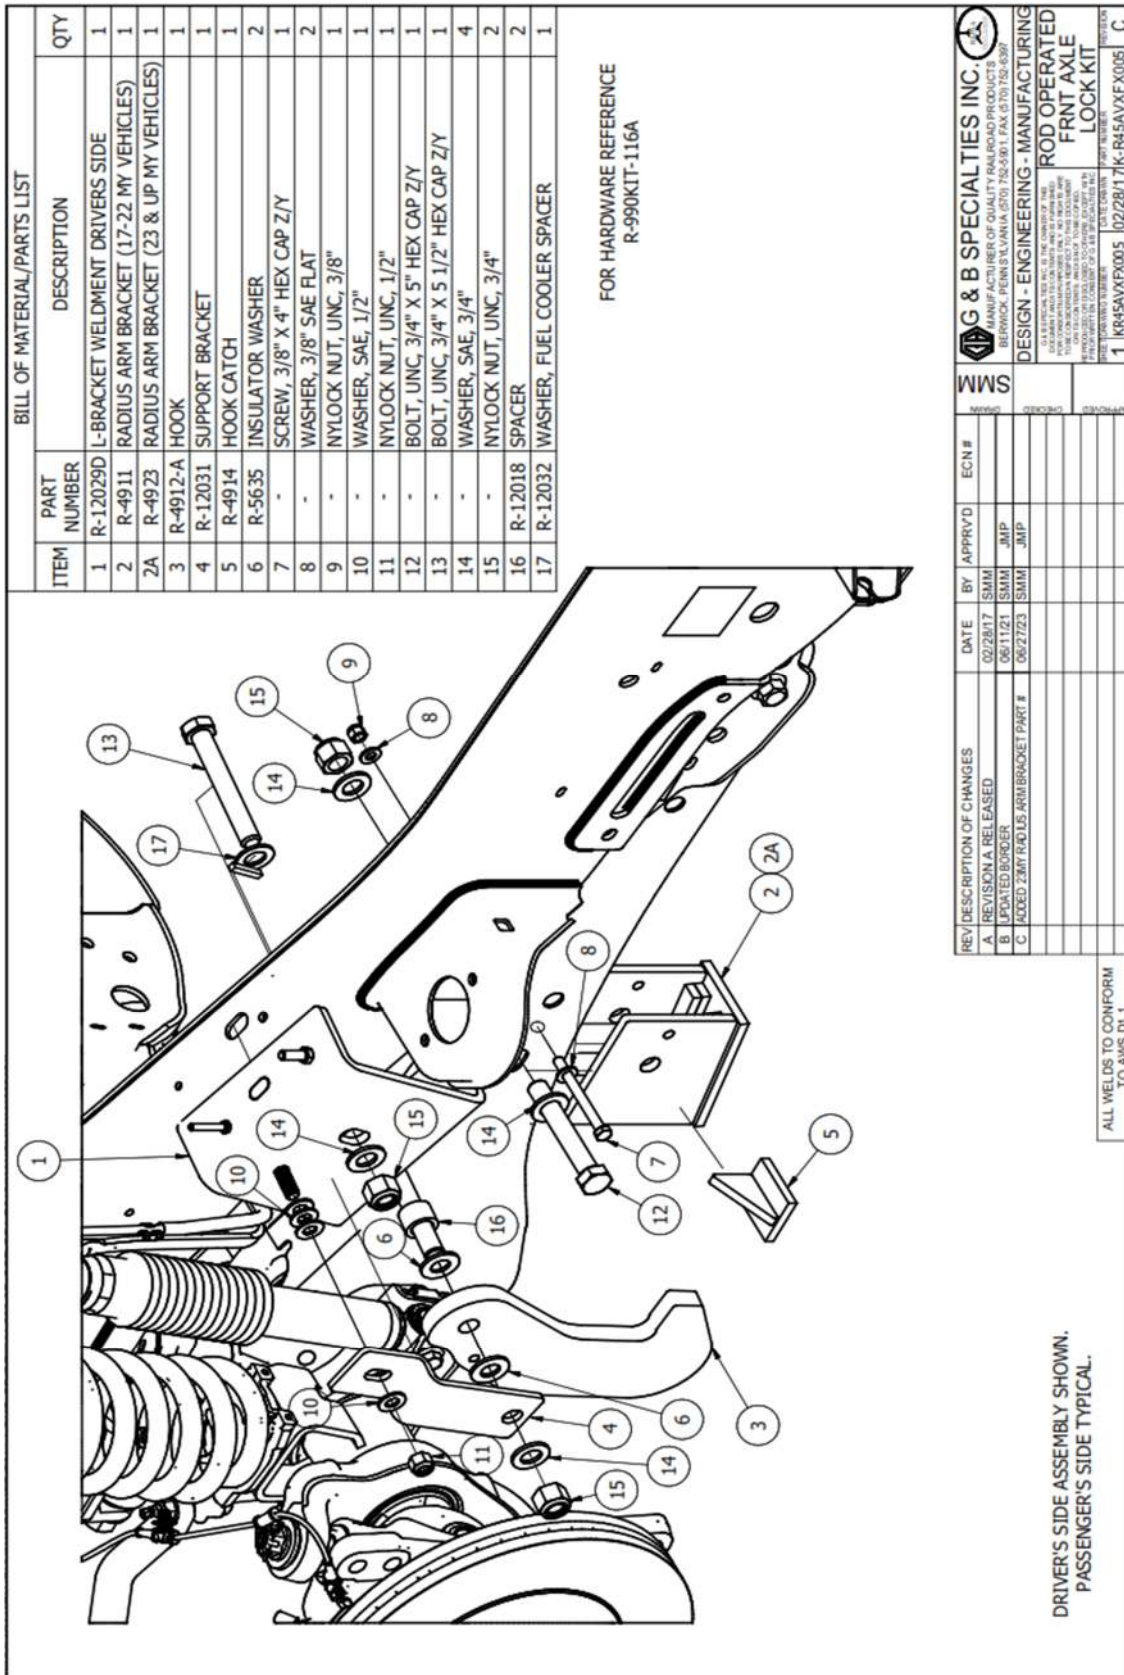

Figure 1
3. Find the slotted hole on top of the frame. Take bracket R-12029D (Driver's Side) and align the locating slug on the bracket with the slot in the frame. When done correctly, slug should drop into the slot on the frame and the bracket sit against the top and outer surfaces of the frame. See (Fig. 1).
4. With the bracket on the frame, center punch the slot on the bracket. Remove bracket and drill a $49/64$ " hole. Hole should line up with existing square hole where we removed the clip from earlier. Check with supplied $3/4$ " bolt to ensure bolt sits parallel and is not angled. Hole may need to be reamed to ensure this. The hole on the outside of the frame can also be obtained by drilling the square hole on the inside of the frame through to the outside. The bracket is slotted for this reason. Just ensure bolt sits straight and not on an angle. Once hole is in place and bolt sits parallel, re-install fuel cooler leaving out the clip we removed. Install bracket to frame, using R-12032 and $3/4$ " hardware as show in Fig. 1 & 2. See Fig. 8 for proper install reference. (Passenger side will need the hole drilled through to the inside of the frame. There are no holes present on the passenger side.)
5. On the radius arm you will see a slotted hole with a hole next to it. Take R-4911 or R-4923 (Depending on Model Year) and place it on the radius arm with the larger hole in the bracket aligned with the slot, positioned closest to the hole side of the slot. See (Fig.6) Place $3/4$ " bolt that was supplied through the bracket and radius arm to help hold the bracket, and with the bracket against the bottom of the radius arm, mark the center of the small hole of the bracket on frame. You may also mark the center of the hole on the inside of the frame. Drill a $13/32$ " hole through the radius arm, or on the inside and outside where marked. With hole drilled, install bracket using the $3/4$ " and $3/8$ " hardware supplied in kit. See (Fig.1 & 3) for reference. Ensure not to over-tighten bolts and deform the radius arm.